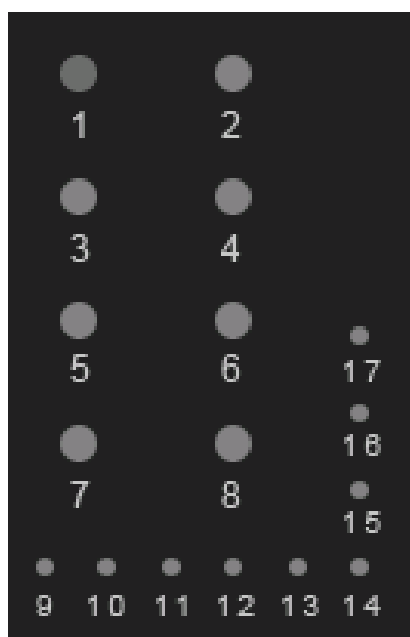

Figure 1 Well location on the Sequencing Reagent Cartridge
a) Well No.5 (as shown in Figure 1)
b) Well No.6 (as shown in Figure 1)